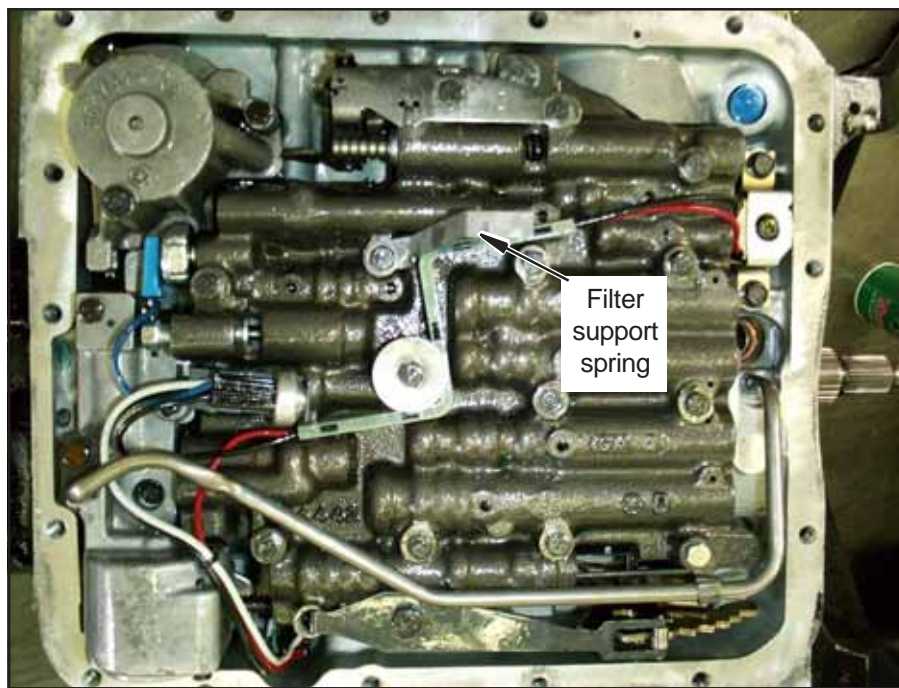

Figure 1
STEP 3. The stock filter is supported by a small spring located at the approximate center of the valve body. **See Figure 1.** This spring must be replaced with the longer spring supplied with the oil pan. Remove the bolt shown in **Figure 1**, take off the spring, install the B&M spring and the bolt. Tighten the bolt to 100 in.-lbs. Do not overtighten.